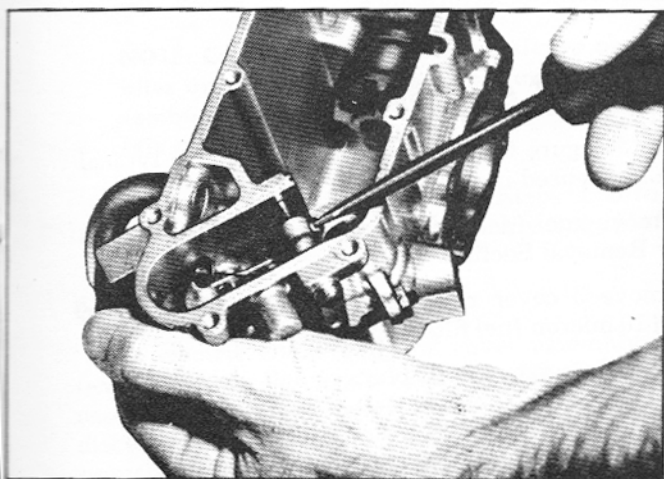

Fig. 57—Loosening Ratio Lever Retaining Screw
- Loosen screw retaining ratio lever in position (fig. 57), slide ratio lever pivot shaft from meter body. Remove ratio lever.